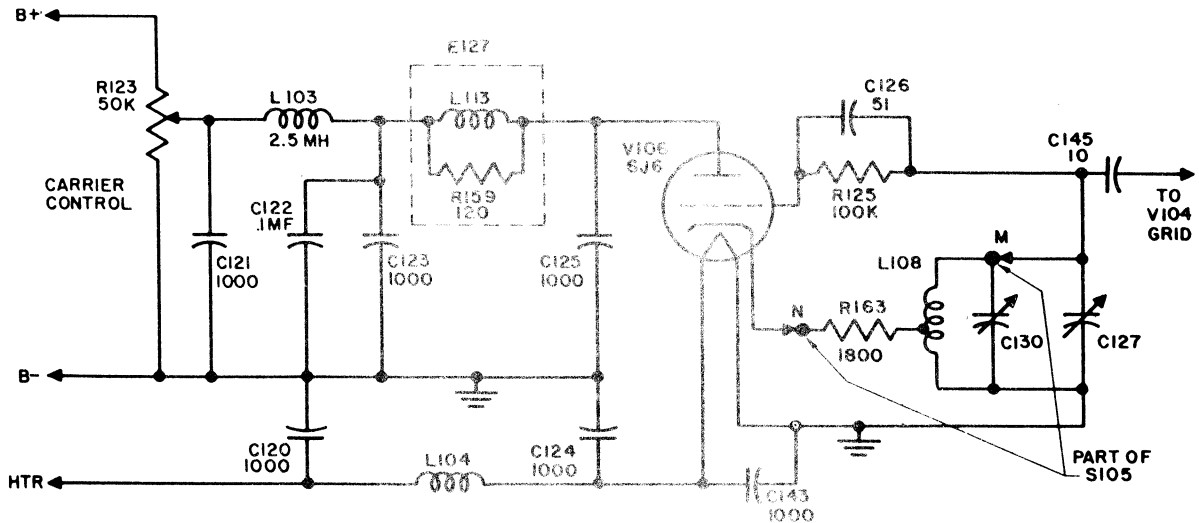

Figure 2-2. Simplified Schematic Diagram of the Carrier Oscillator
(See figure 2-2).
c. The principal electrical features of the carrier oscillator are shown in the simplified schematic diagram, figure 2-2. For purposes of simplifying the circuit analysis, the mechanics of the FREQUENCY BAND SWITCH (S-105) have not been included in this figure. M and N represent the contact positions of the FREQUENCY BAND SWITCH (S-105) when set at band E. The details of the carrier oscillator are covered in the overall schematic diagram (figure 6-22) near the end of Section 6.
d. The oscillator tube (V-106) is a type 6J6 dual triode with both sections connected in parallel. The frequency of the oscillations is determined by the L-C constant of the resonant tank circuit. The main tuning capacitor (C-127) is of the straight line frequency type, designed to give a linear frequency change with rotation except at the extreme ends of the frequency range. All frequency bands, with the exception of the highest band (H), can be calibrated by adjustment of the associated trimmer capacitor and variable iron core inductance. If necessary, band H can be calibrated by varying the spacing between the turns of L-105. This is discussed in Section 6, par. 9.